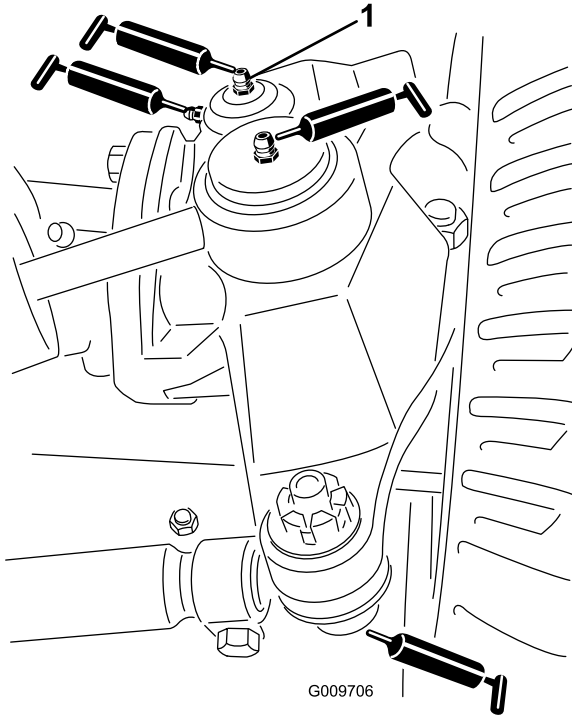

Figure 50
- Steering-cylinder ball joints (2) (Figure 50)
- Tie-rod ball joints (2) (Figure 50)
- King-pin bushings (2) (Figure 50). **The top fitting on the king pin should only be lubricated annually (2 pumps).**